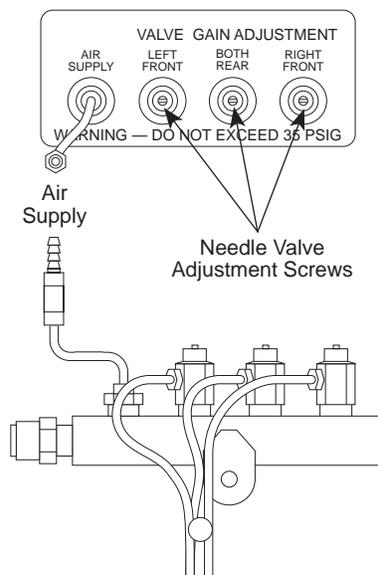
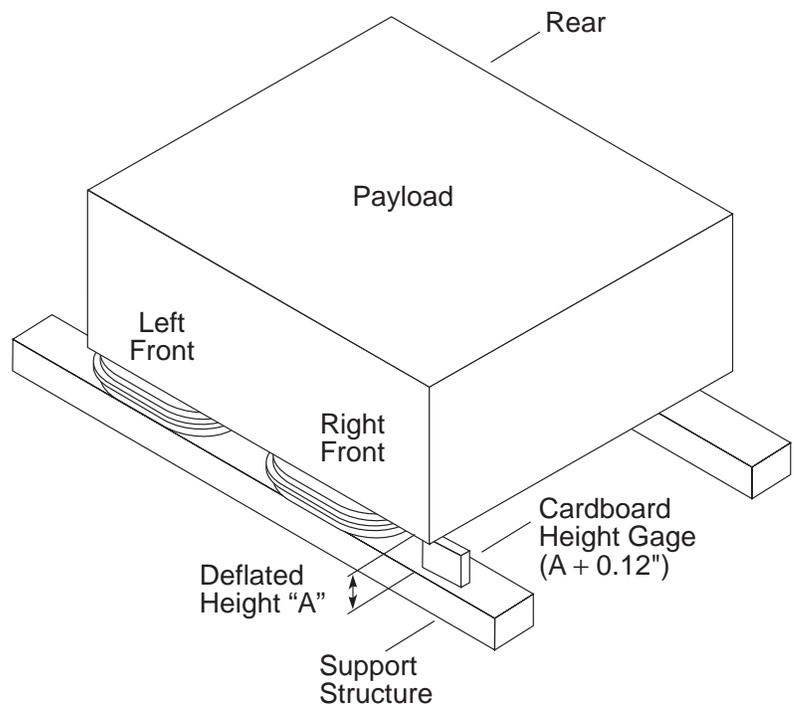

Figure 6
Figure 7 — Adjustment of isolator inflation for Schrader Valve version.
As previously mentioned, your Compact Isolation System unit has been tuned at the factory. It is usually not necessary to adjust the needle valves (Figure 6) or height adjusting screws. However, you may want to adjust the unit under the following conditions:
1. Set your payload upon the compact isolation system as shown in Figure 7.
8. Hold the cardboard height gage under the rear edge of the platform as shown in Figure 7. Observe the clearance between the platform and the gage and *slowly* open the "Both Rear" (center) needle valve (Figure 6). The rear edge of the platform will begin to lower. Slowly lower the rear of the platform until it barely touches the top of the gage, then close the valve. The platform should float so that the gage just slips under the platform. Move the gage to the left front and right front in turn and repeat the process using the "left front" and "right front" needle valves.